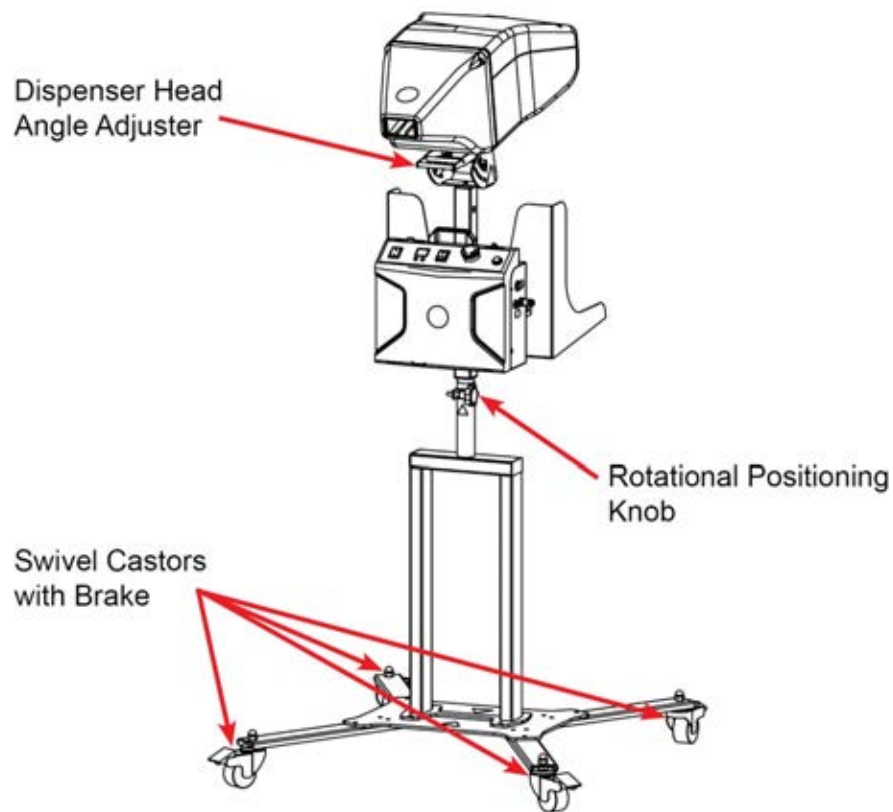

Figure 7 Floor Stand
1. Floor Stand (refer to Figure 7).
1. Turn the Rotational Positioning Knob three turns counterclockwise to loosen the **Dispenser** Stand Positioner (refer to Figure 7).
3. Tighten the Rotational Positioning Knob by turning it clockwise (refer to Figure 7).